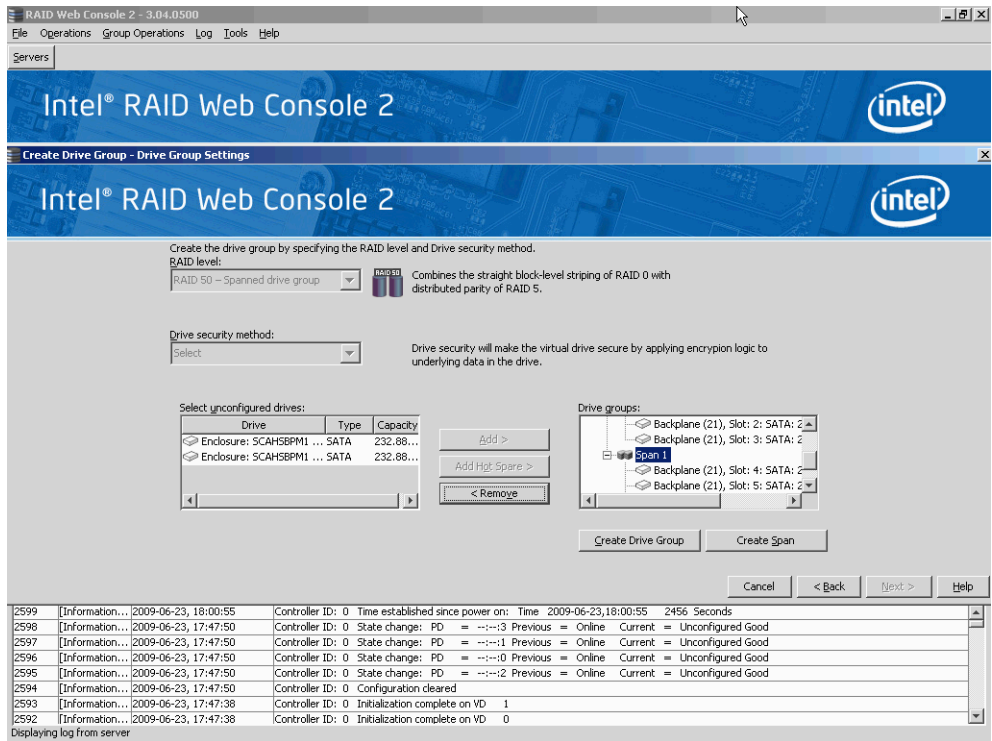

Figure 135. Span 0 and Span 1 of Drive Group 0
- e. The selected drives appear under **Span 1** below **Drive Group 0**, as shown in Figure 135